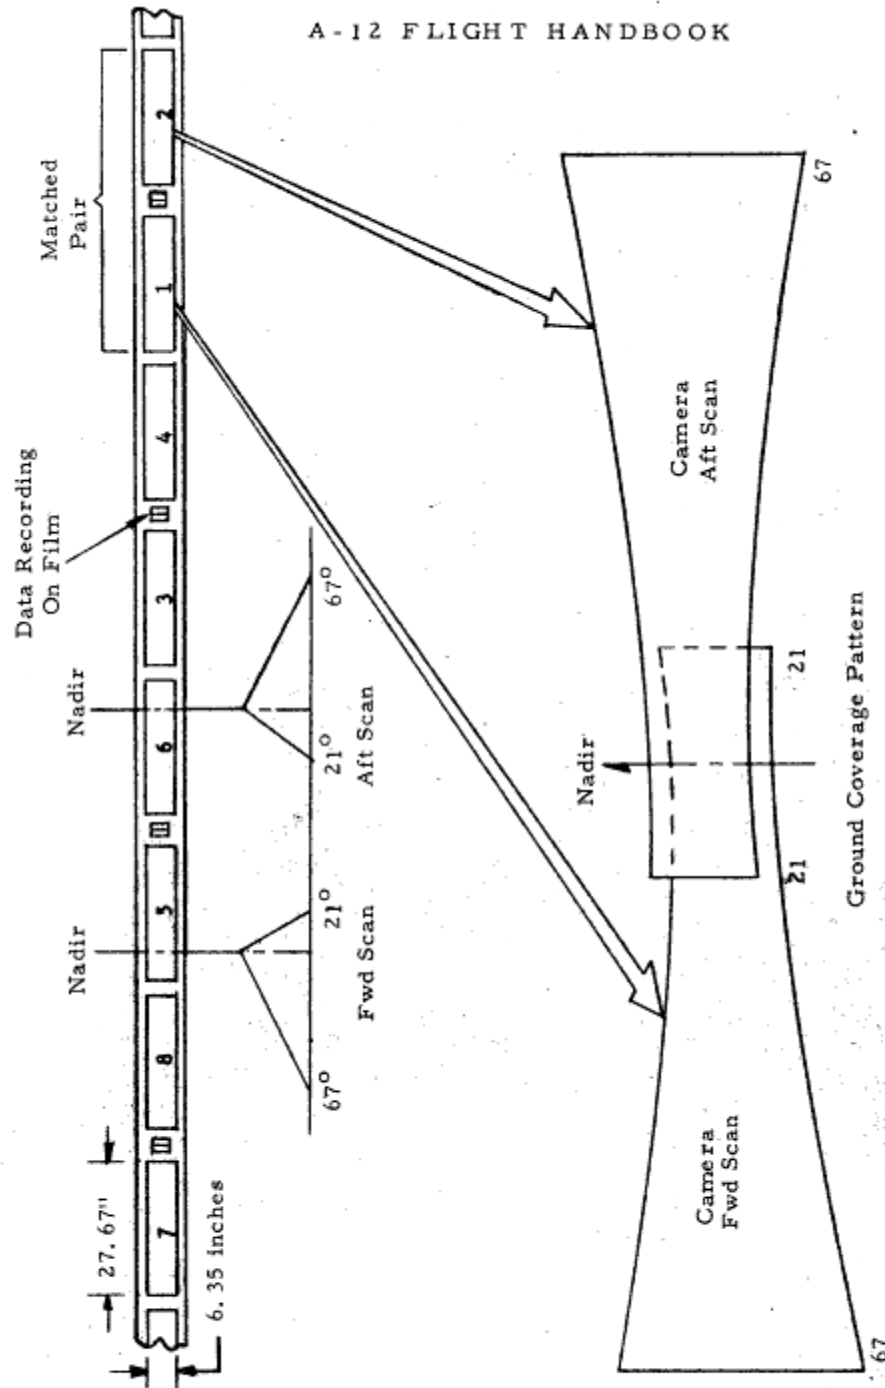

Figure 1-10. Type I Package Frame Format Relationship To Ground Coverage Pattern
- 1-33. Results of the Type I camera system are matched sets of panoramic photographs in the format shown in Figure 1-10. Paired photographs, one forward scan and the corresponding aft scan, appear with the associated data information recorded in an area between them. Approximately 990 such paired photographs with recorded data can be expected from a full film supply of 5000 feet. Film width is 6.6 inches. Individual frame dimensions are 6.4 inches by 27.8 inches.